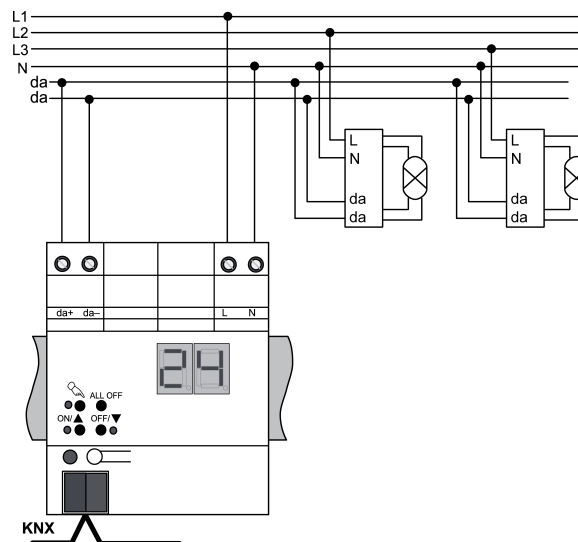

Figure 3
- Connect device as shown in the connection example (Figure 3).